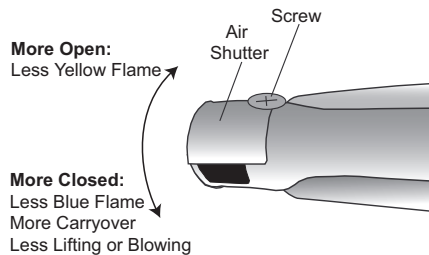

Figure 5: Broil Air Shutter Adjustment
1. Loosen screw and turn shutter. Close the shutter if the flame is lifting or blowing or not carrying over; open the shutter if it is too yellow. (See Figure 5). Tighten screw.